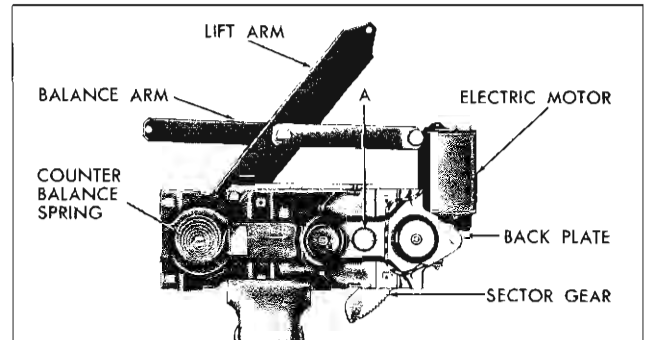

Fig. 53—Rear Door Window Regulator Motor Assembly
1. Remove electric window regulator assembly from door and/or rear quarter and clamp securely in vise (fig. 53).
2. Drill a $\frac{1}{4}$ " hole through sector and back plate within area indicated by "A" (fig. 53).
4. Remove motor attaching bolts and remove motor assembly from regulator (see fig. 53).